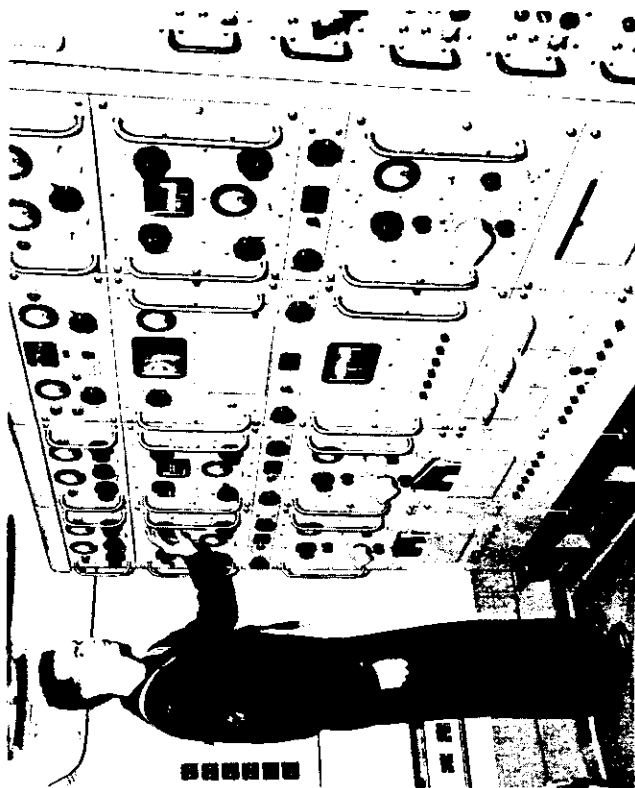

Figure 10-20 AN/SRT 502 Transmitter
The AN/SRT 502 (Figure 10-20) is designed primarily for installation in naval vessels where it is intended to act as the main transmitter for ship-to-ship and ship-to-shore communication. Included in the set are two high-frequency (HF) transmitters, either of which may be used for normal long distance communication, and a single low-frequency (LF) transmitter which is used for short distance working. The modulator-power supply section has a power supply which is shared by all three transmitters, and a modulator unit which is used to voice-modulate either HF transmitter for radiotelephone operation.